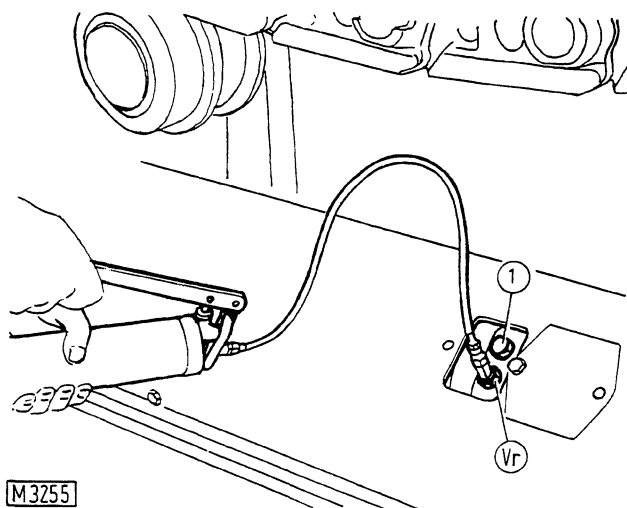

Fig. 10 - Track tension adjustment.
- Back out drain plug partly (1, Fig. 10).
- Inject grease through valve (Vr) until it squirts out of drain plug (1).